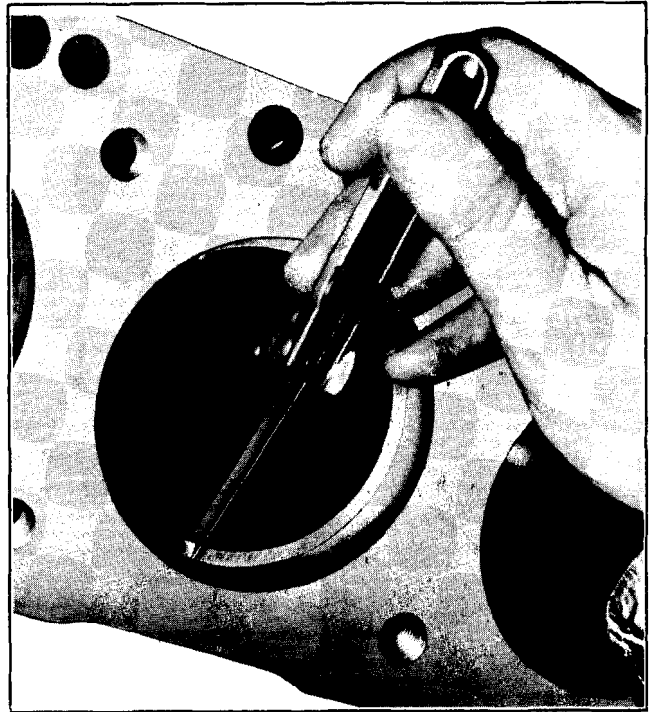

Fig. 6-67 Checking Ring Gap
3. Measure gap between ends of ring with feeler gage (Fig. 6-67). Gaps should be as follows: